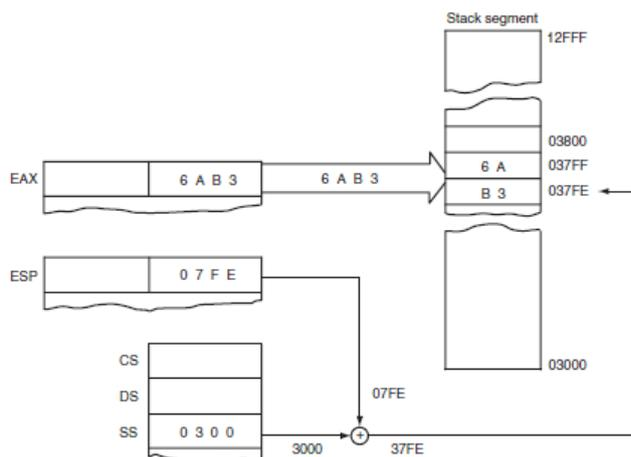

Figure 4-13: The effect of the PUSH AX instruction on ESP and stack memory locations 37FFH and 37FEH. This instruction is shown at the point after execution
- In 8086, PUSH always transfers 2 bytes of data to the stack (Figure 4-13).